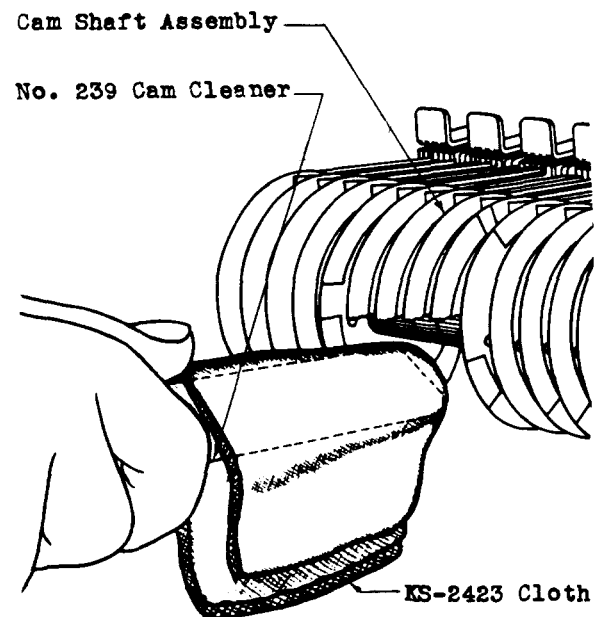

Fig. 9 — Method of Cleaning Sequence Switch Cams
(2) For cleaning cams, moisten a KS-2423 cloth as described in (1) above. Then place two or three thicknesses of the cloth over the prong of the No. 239 cleaner. With the sequence switch revolving, rub the prong of the tool between adjacent cams, the tool being operated in and out from the under side of the cams, pressing the tool first against one cam and then the other. Hold the tool as shown in Fig. 9. Select a clean section of moist cloth as soon as the cloth will no longer retain additional dust.